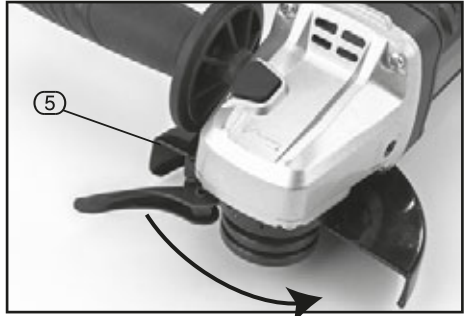

FIG.2
9.2 FITTING THE GUARD - FIG. 2
Position the guard (5) onto the grinder collar with the quick release lever in the open position (fig.2.) rotate the guard until it is in the correct position to line up the cutout, once fully located the guard can be rotated to any position*. To remove, the guard must be rotated until the spigot lines up with the cutout again and* then close the quick release lever to lock the guard in the correct position.